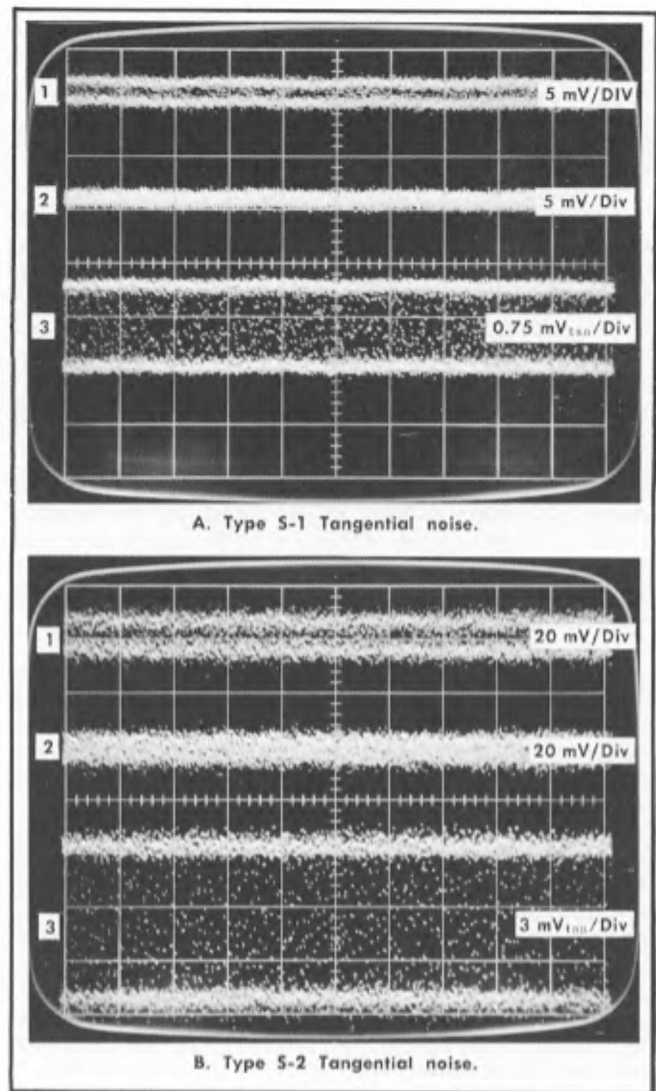

Fig. 5-15. Triple exposures of Tangential noise measurements, Step 11.
e. Refer to Fig. 5-15 during the following noise measurement procedure.
(1) Obtain a display (1) of two traces. Adjust the variable attenuator until the two traces blend together just to the point (2) at which they appear as one trace.